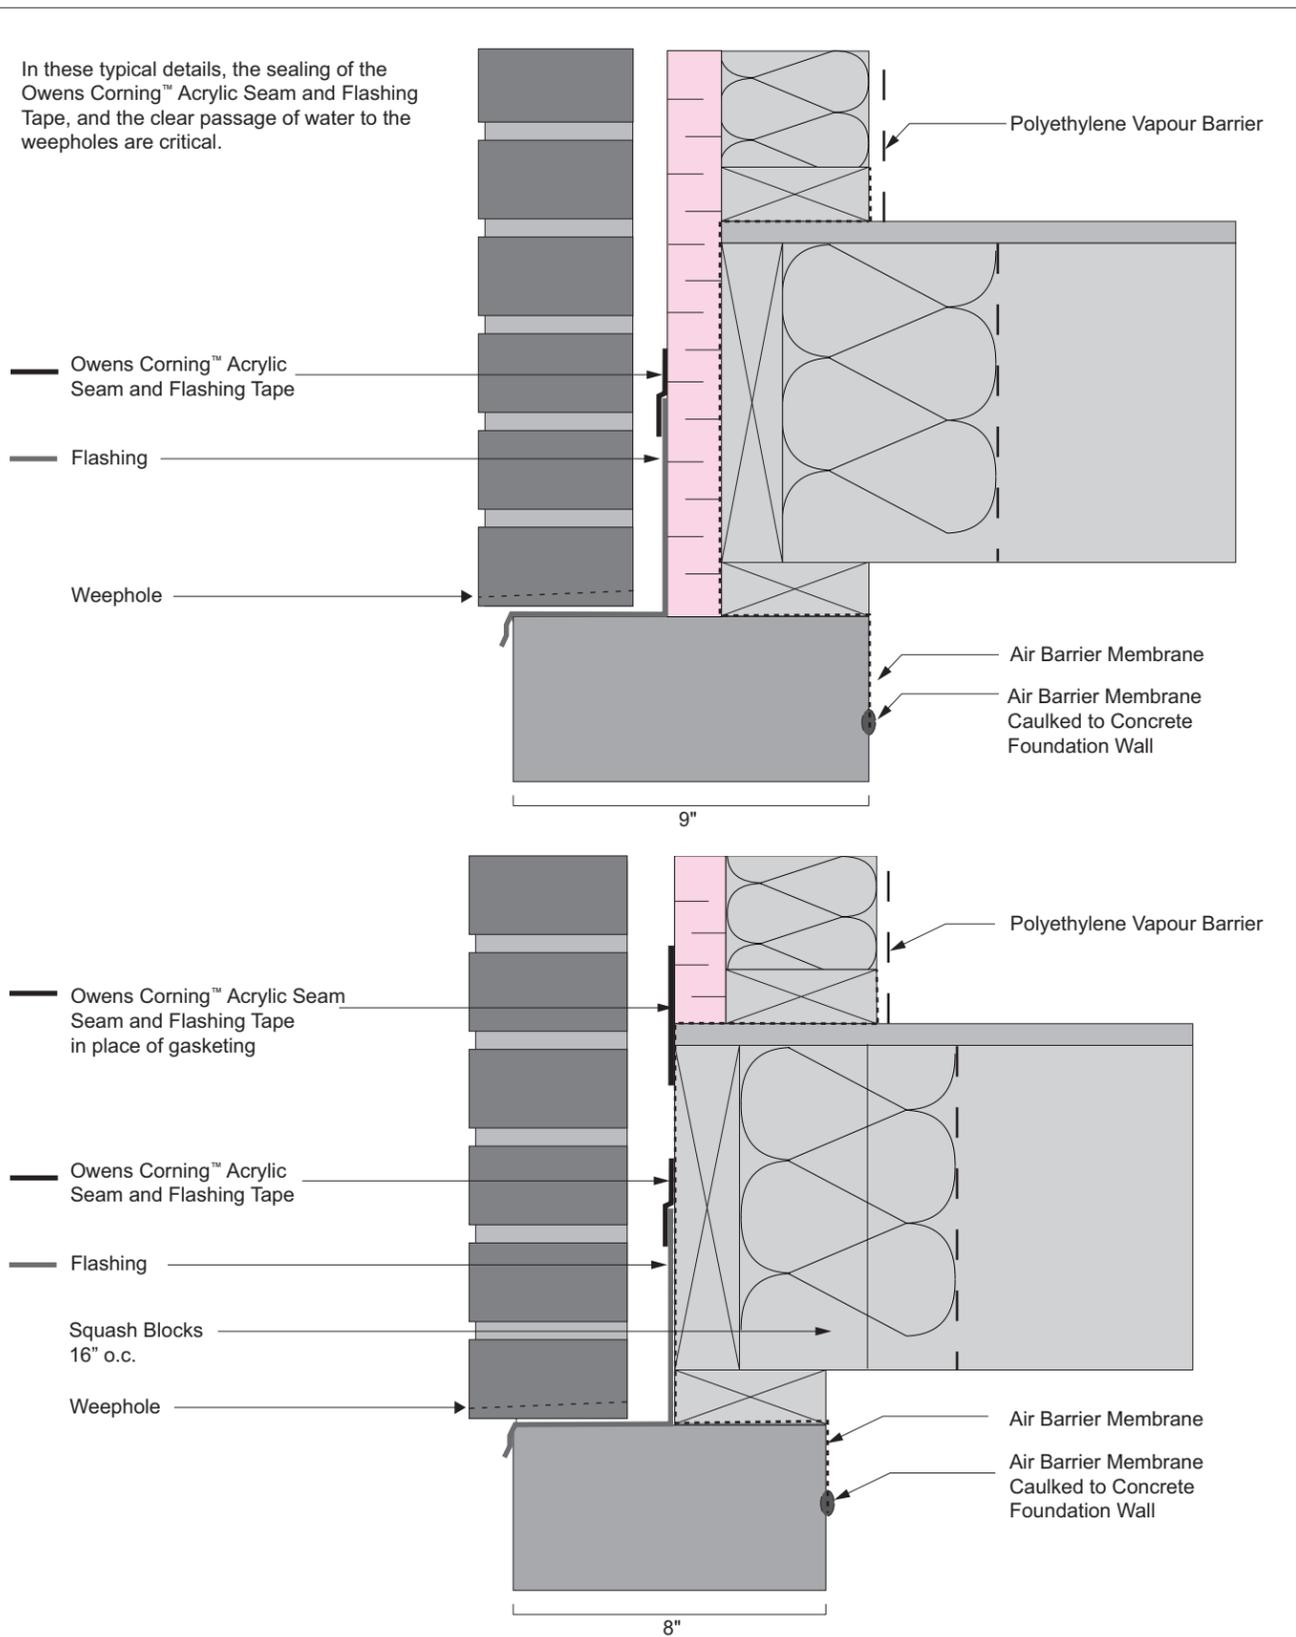

Figure 6.1 8" and 9" Foundation Wall Header Detail - Owens Corning™ Acrylic Seam and Flashing Tape and no FoamSealR™ Gaskets
- header over the foundation (Figure 6.1);